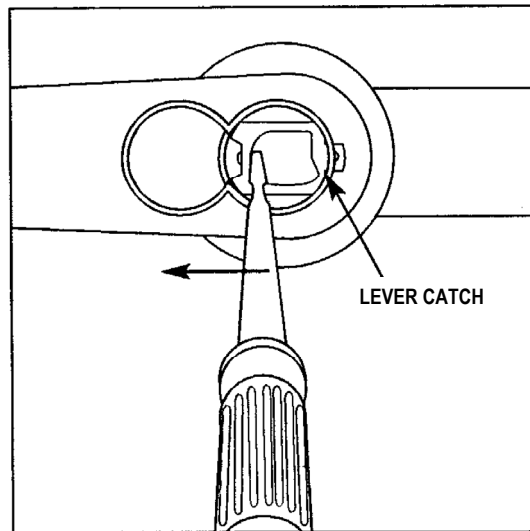

FIG. 21: REMOVING THE IC CORE LEVER
2. Use a screwdriver to push inside of Lever Catch to the side (see Fig. 21). Pull off the IC lever.